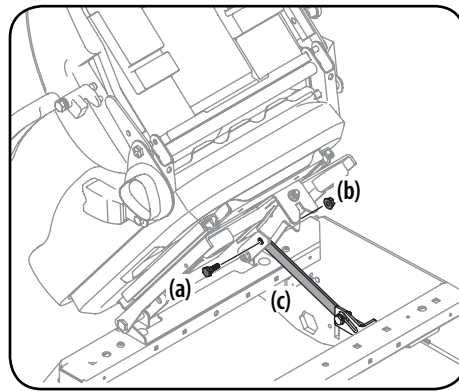

Figure 2-7
3. Remove the shoulder screw (a) and flange lock nut (b) from manual bag and install the seat lockout bracket (c) as shown in Figure 2-7.